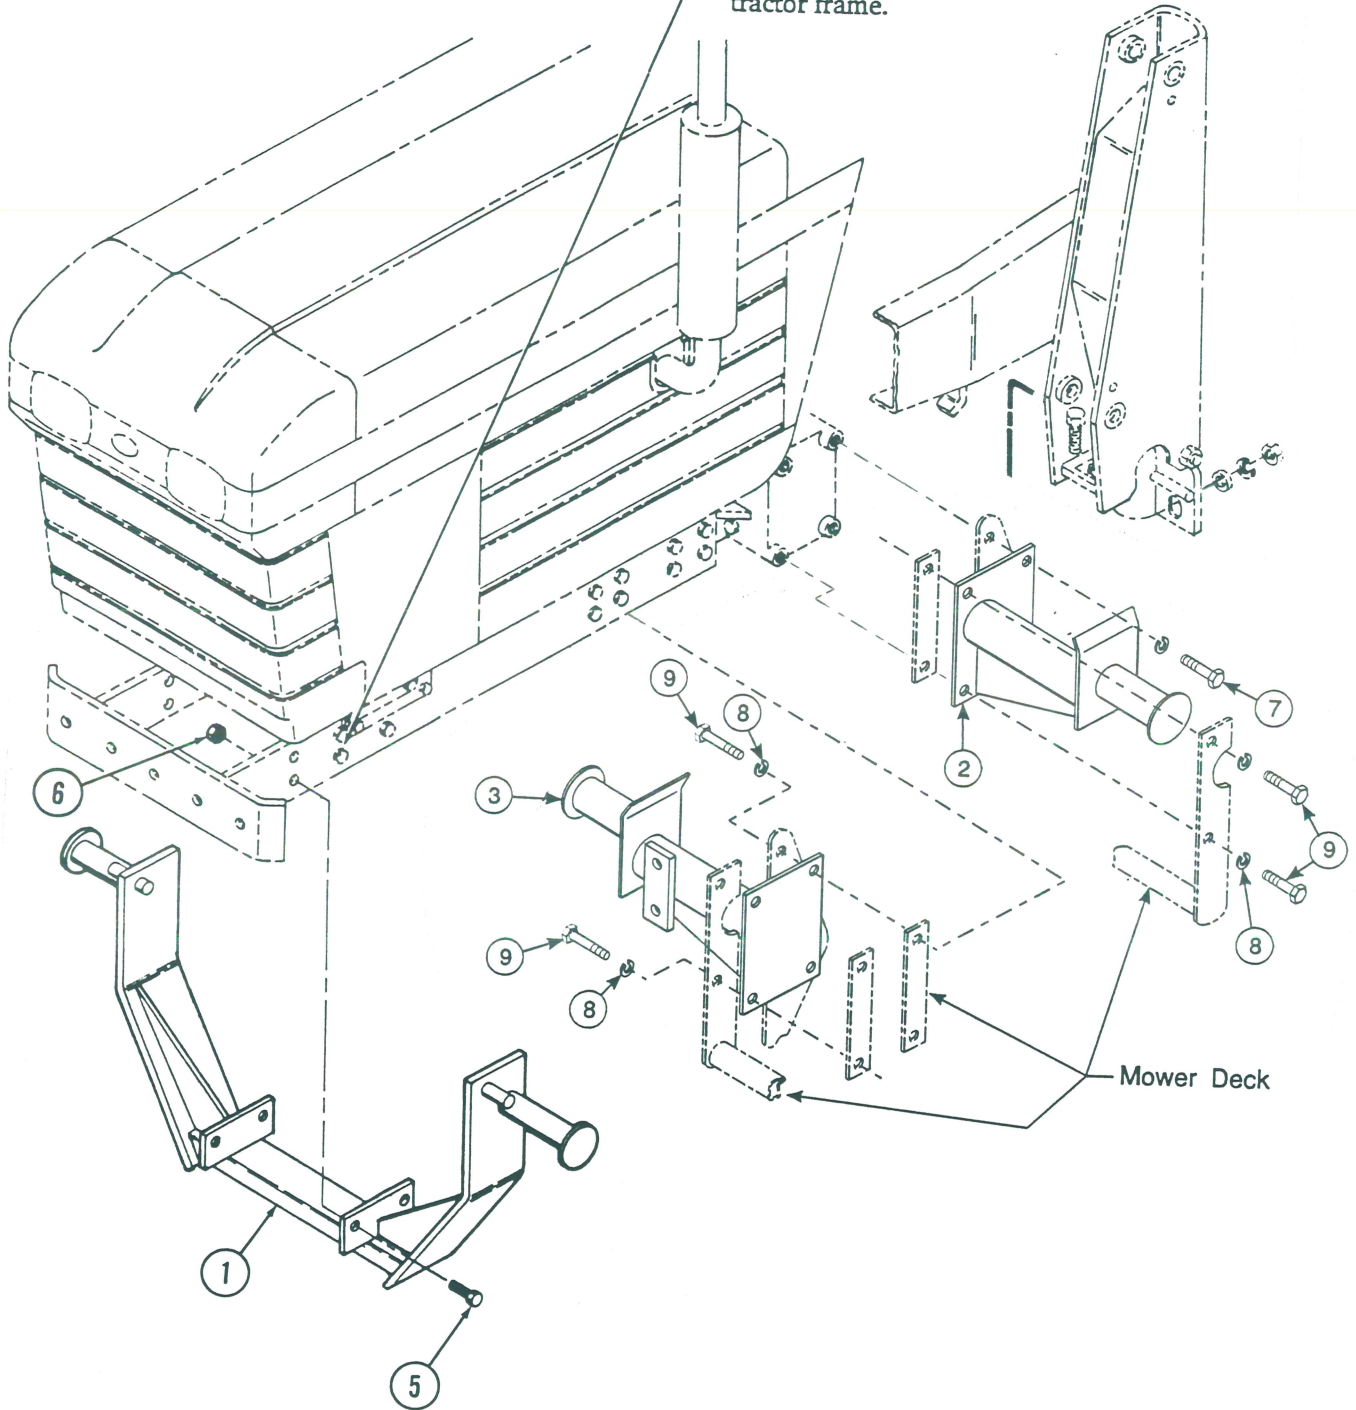

Figure 2
NOTE: If using 915 mower deck, spacers (4) are not used. Use 3/8 spacers provided with mower deck (Figure 2).